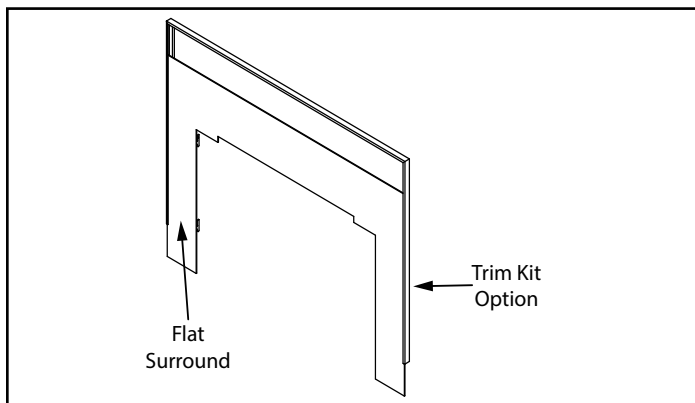

Figure 5.13
4. Slide trim over flat surround as shown in **Figure 5.13**.